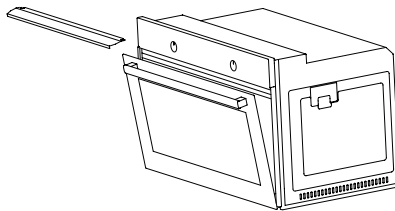

Figure 11
3. Place the heat shield under the control panel by opening the oven front door. (figure 11)